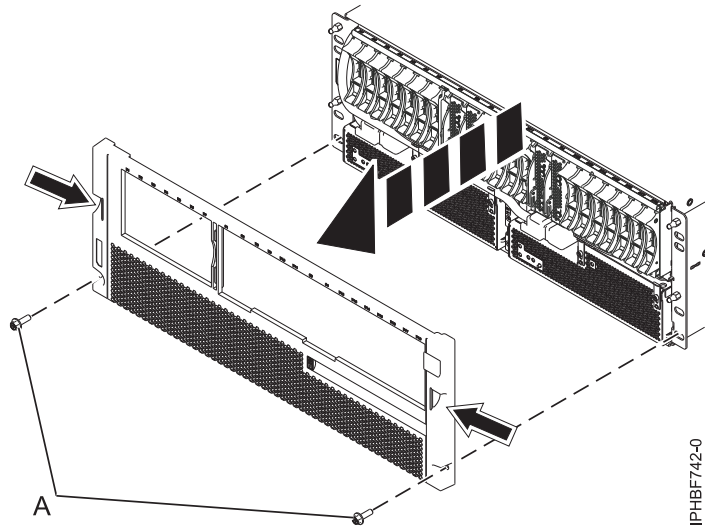

Figure 6. Removing the service information holder and bezel
- 1) Remove the two M5 securing screws (**A**) as shown in Figure 6 on page 9.